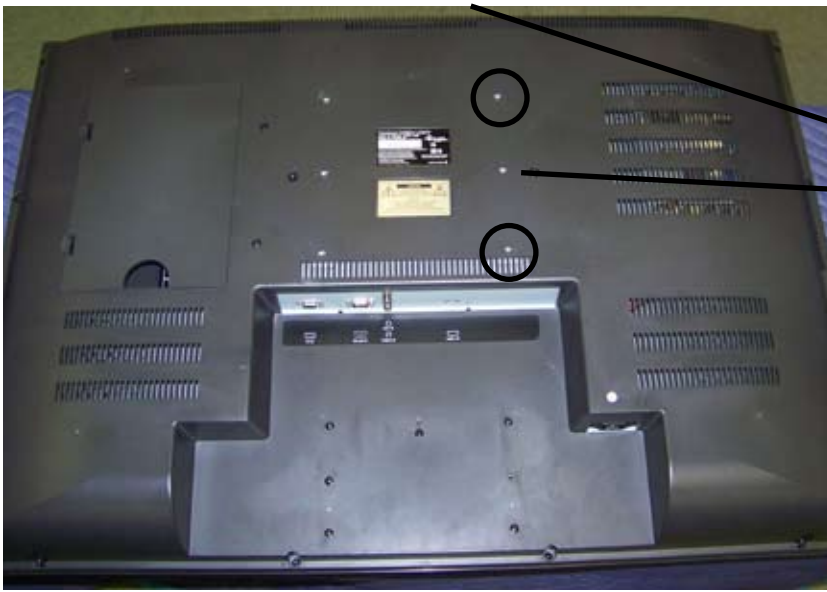

**FIGURE 7**
Loosely insert the lower spike/box assembly screws (SS) then fit the spike/box assembly notch over the screws and insert the tilt adjustment screws (SS) at the angle desired and tighten all screws. This assembly can be installed with or without a tilt. Reference **FIGURE 7** for tilt adjustments.